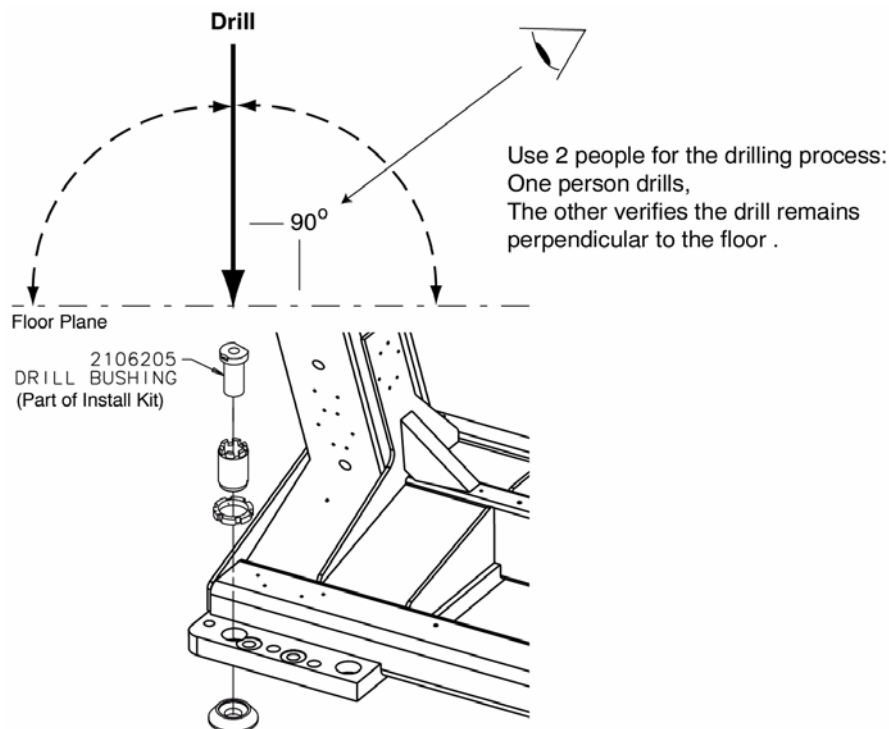
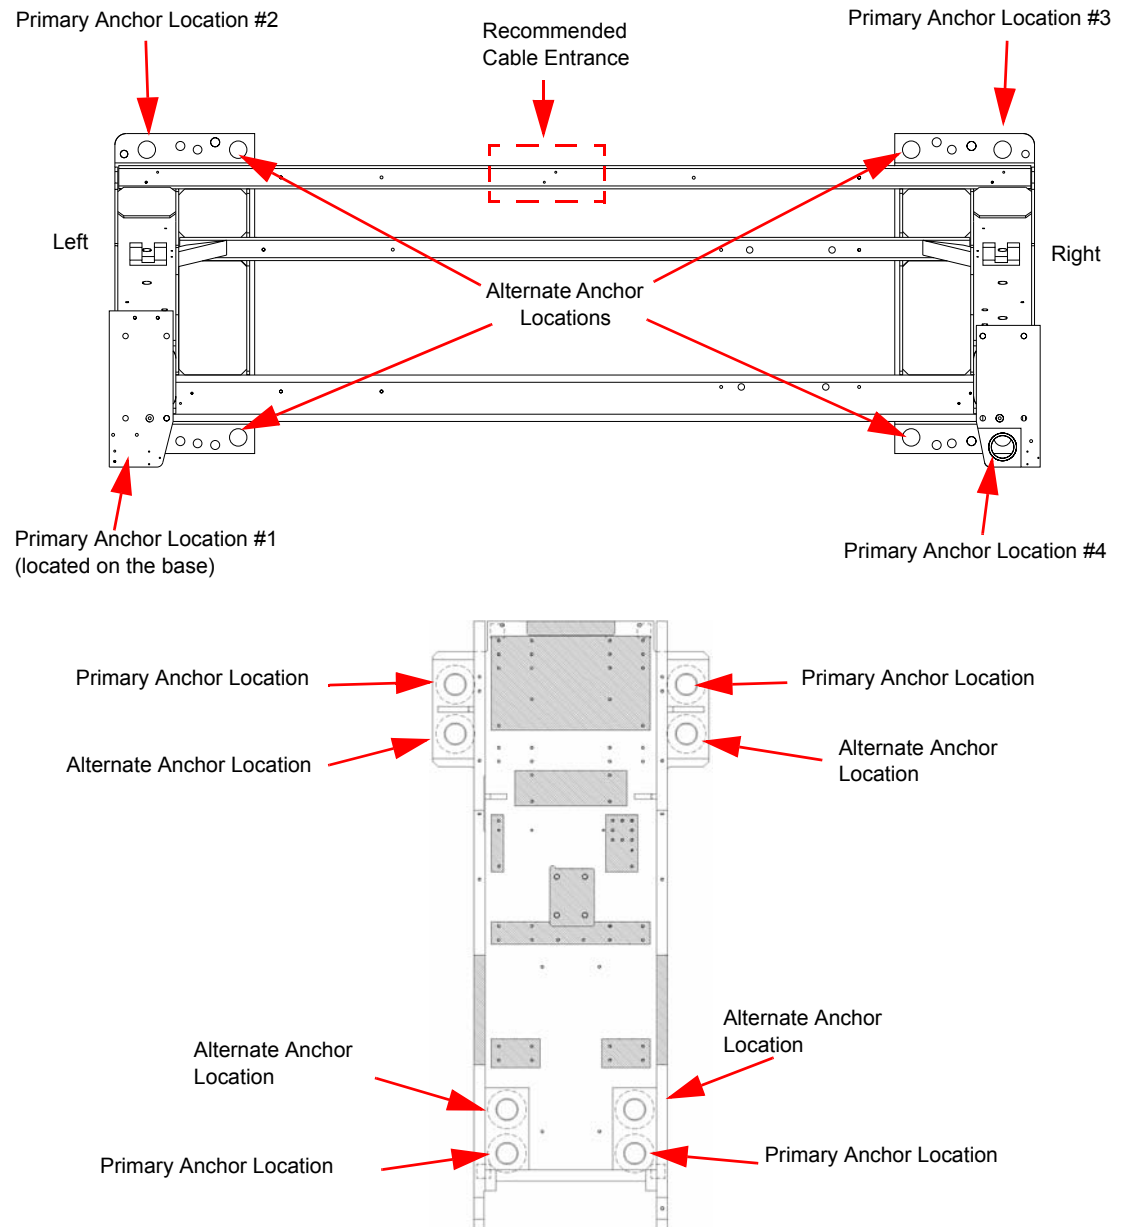

Figure 1-40 Drilling Position
Figure 1-41 Anchor Locations
- 2.) Locate the hammer drill and ½ in. X 12 in. drill bit. The ½ in. bit is used to drill all eight (8) table and gantry anchor holes. You must use the drilling bushing to drill all table and gantry holes. All primary holes can be drilled with the gantry front covers installed.
- 4.) Use the ½ in. bit to drill all eight (8) anchor holes to a depth of 190 mm (7-1/2 in.), as measured from the top of the drill bushing. Review Figure 1-40 and Figure 1-41 prior to drilling.
If you cannot use one of the adjuster anchor holes due to structural interference, such as reinforcement bars in the concrete, you must use one of the alternate anchor locations, as shown in Figure 1-41. You must also move the respective leveler(s) and pad(s) to the new alternate location(s) and re-drill.